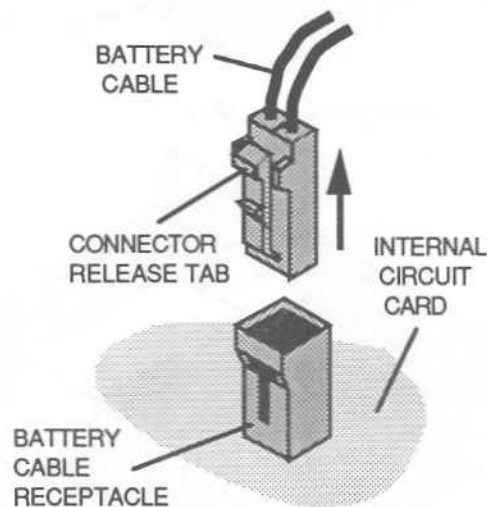

Figure 6-4. Disconnecting the Battery Cable
- (1) Remove the top cover. See Section 6.5, step (2).
- (2) Disconnect the battery cable from the internal circuit board (behind the On/Standby switch). Hold in the release tab and pull the connector upward (see Figure 6-4). Pull on the connector body, not the wires.